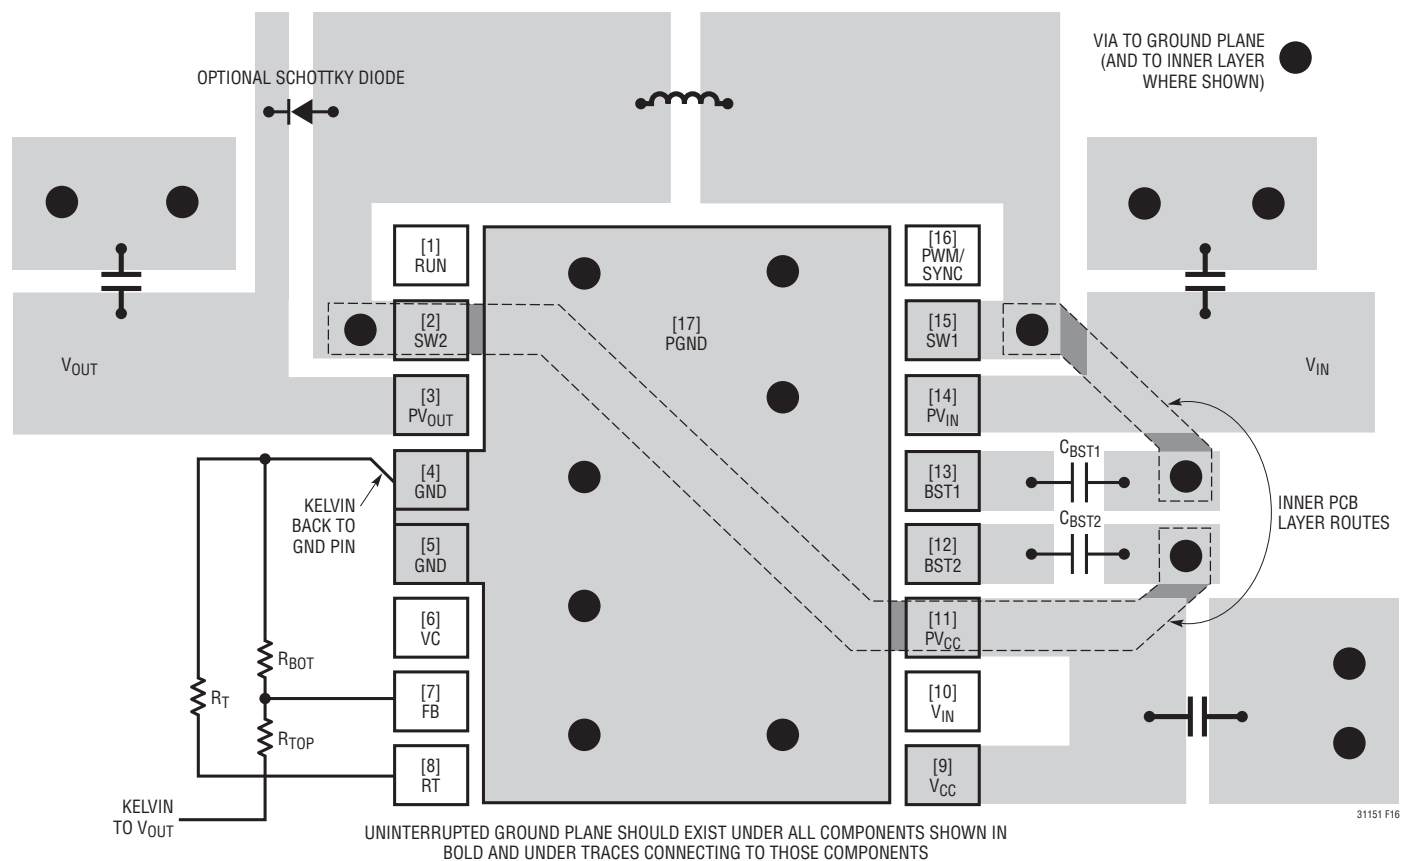

Figure 16. PCB Layout Recommended for the DHD Package
The LTC3115-1 buck-boost converter switches large currents at high frequencies. Special attention should be paid to the PC board layout to ensure a stable, noise-free and efficient application circuit. Figure 16 and Figure 17 show a representative PCB layout for each package option to outline some of the primary considerations. A few key guidelines are provided below:
1. The parasitic inductance and resistance of all circulating high current paths should be minimized. This can be accomplished by keeping the routes to all bold components in Figure 16 and Figure 17 as short and as wide as possible. Capacitor ground connections should via down to the ground plane by way of the shortest route possible. The bypass capacitors on  $PV_{IN}$ ,  $PV_{OUT}$  and  $PV_{CC}/V_{CC}$  should be placed as close to the IC as possible and should have the shortest possible paths to ground.
5. To prevent large circulating currents in the ground plane from disrupting operation of the LTC3115-1, all small-signal grounds should return directly to GND by way of a dedicated Kelvin route. This includes the ground connection for the RT pin resistor, and the ground connection for the feedback network as shown in Figure 16 and Figure 17.